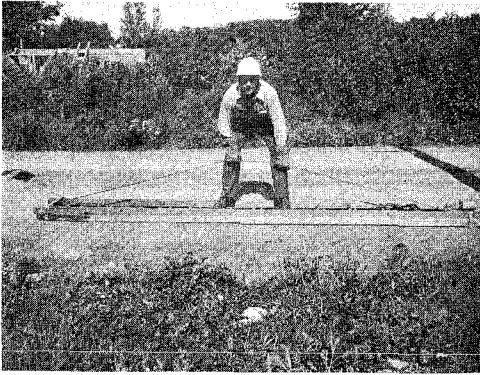

Fig. 40 — Testing Ladder Rope
**13.04** Excessively worn, seriously frayed or rotted ladder ropes. Test the rope by laying the ladder on the ground. Make sure that the rope is well tied to a lower rung. Stand on two rungs near the centre of the ladder. Grab one side of the rope and pull on it, as hard as you can. (See Fig. 40) If the rope passes this test, untwist it every 3 feet and look for signs of rotting, mildew and decay.